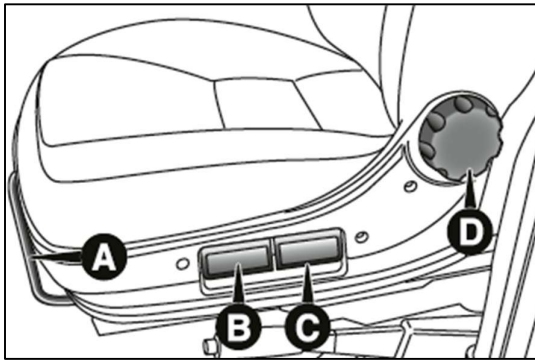

Fig. 1
- Lift lever (A) (see fig. 1) to move the seat forward or backward.
- To raise: While seated, lift lever (B) (front of the seat) or lever (C) (rear of the seat) upwards and slightly lift your body.
- To lower: While seated, press lever (B) or (C) upwards and shift your weight to lower the seat.
- Use knob (D) (see fig. 1) to adjust the backrest angle.